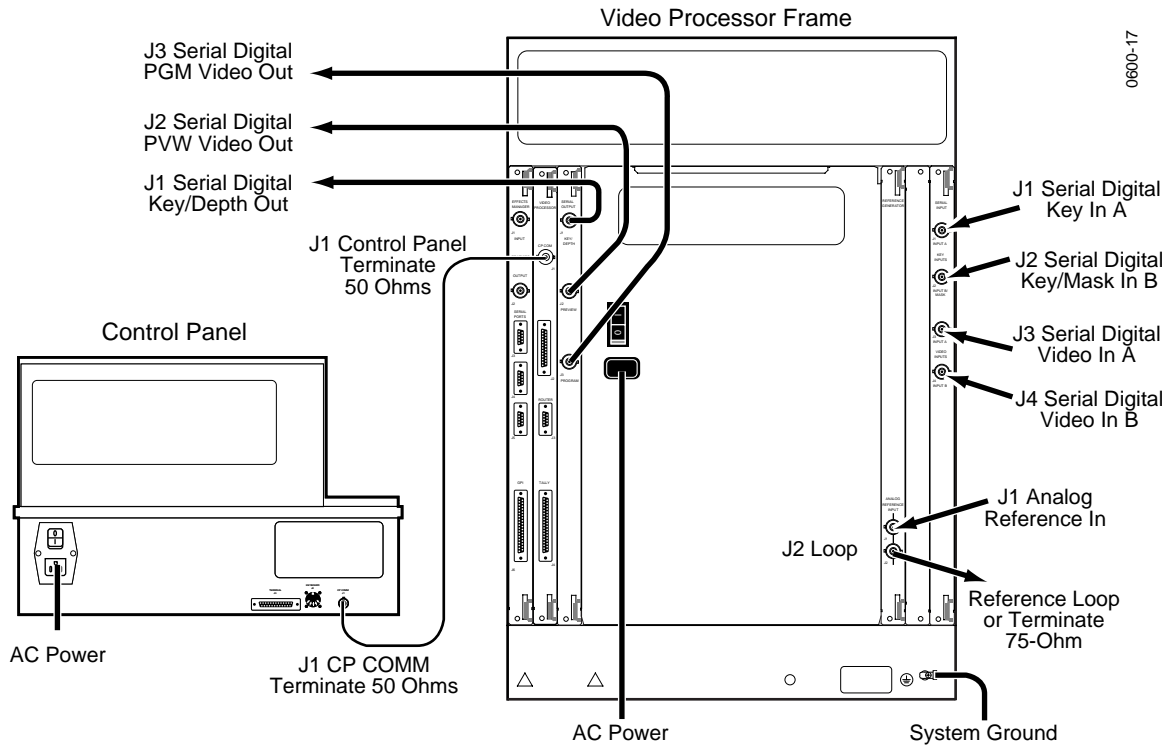

Figure 2-6. Single Channel Basic Cabling
- a. On a single channel system, connect the cable to J1 CP COMM on the Video Processor I/O module and terminate the cable (Figure 2-6).
Refer to Figure 2-6.